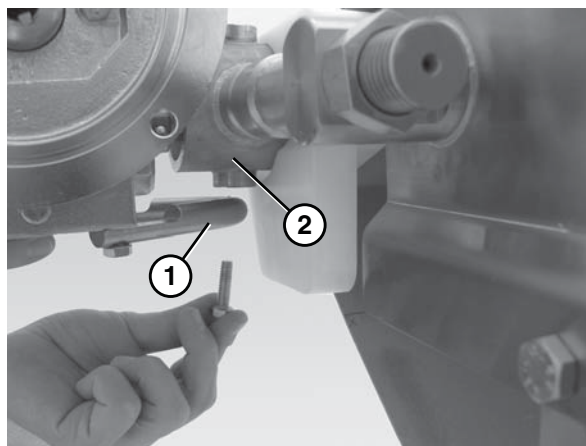

Figure 8
4. Attach the lower gearhead mounting bar (Figure 8, item 1) to the motor mounting bracket (Figure 8, item 2).